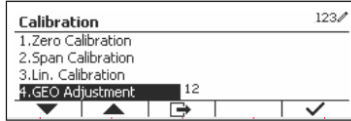

Figure 22
2. Scroll to GEO Adjustment using the softkey corresponding to the ▼ icon. (See Figure 22)